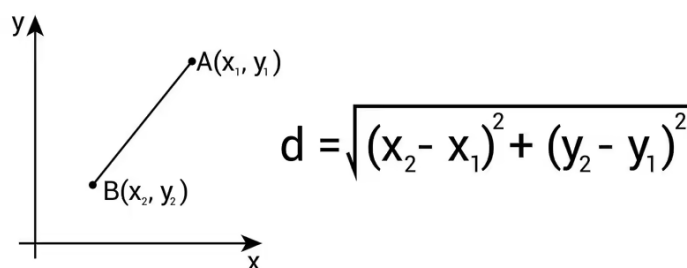

Figure 6: Formula of Distance Between Two Coordinates
- An auxiliary function is written that calculates the distance between the entered A, B, and C phases according to their (x, y) coordinates as Dab, Dac, and Dbc according to the formula below, seen in Figure 6. Thanks to this function, GMD calculation was made.